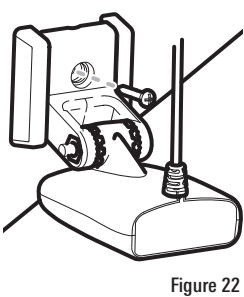

Figure 22
4. Snap the pivot back down. Install the #8 x 1" wood screw into the 4th hole to lock down the pivot arm (Figure 22). **Hand-tighten only!**